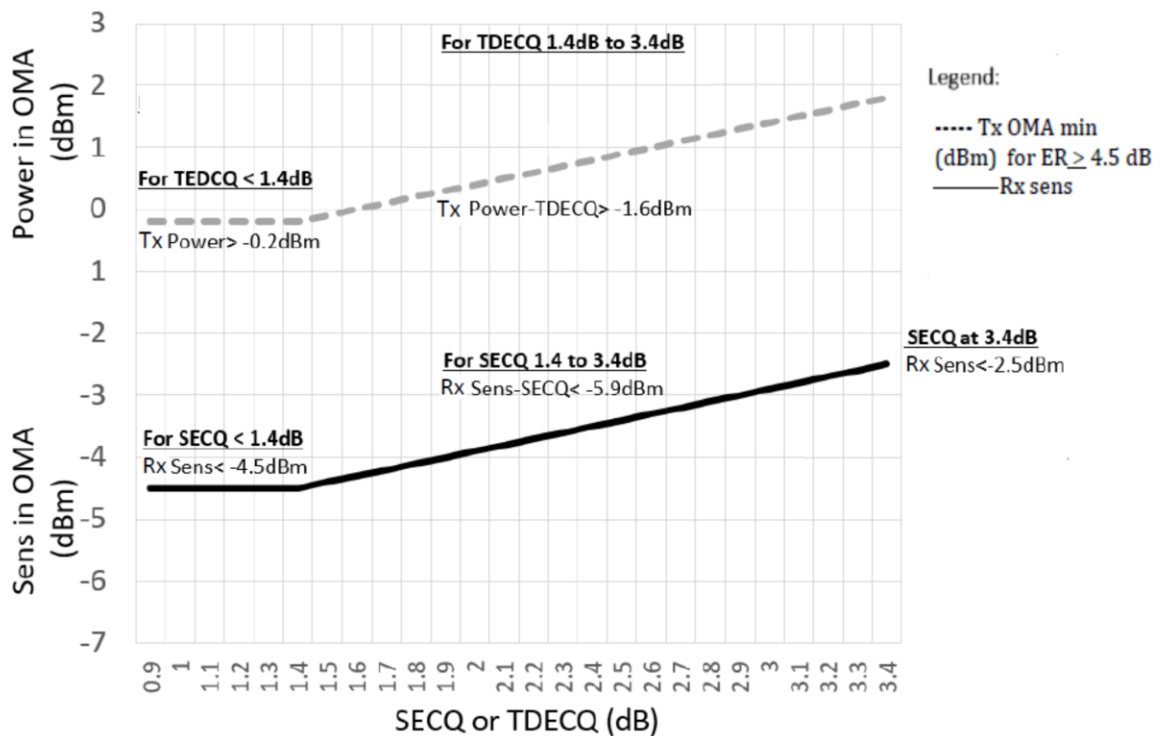

Figure 4. Illustration of Receiver Sensitivity Mask for 400G-DR4+
6. Receiver sensitivity (OMA_{outer}) is informative and is defined for a transmitter with a value of SECQ up to 3.4 dB. Receiver sensitivity should meet Equation (1), which is illustrated in Figure 4.